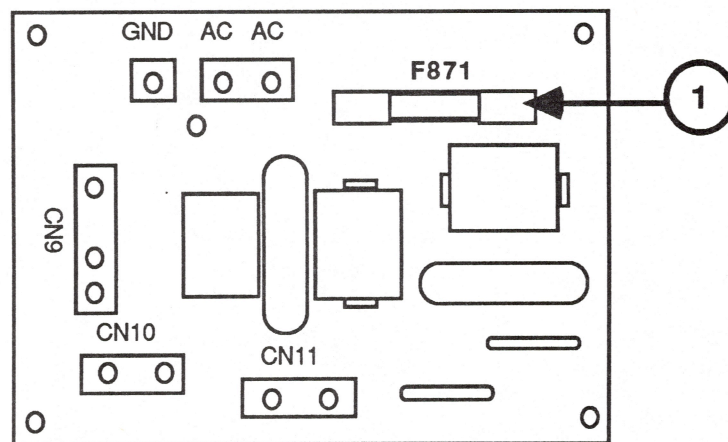

FIGURE 28
4. Locate fuse F871 (Figure 28, #1).